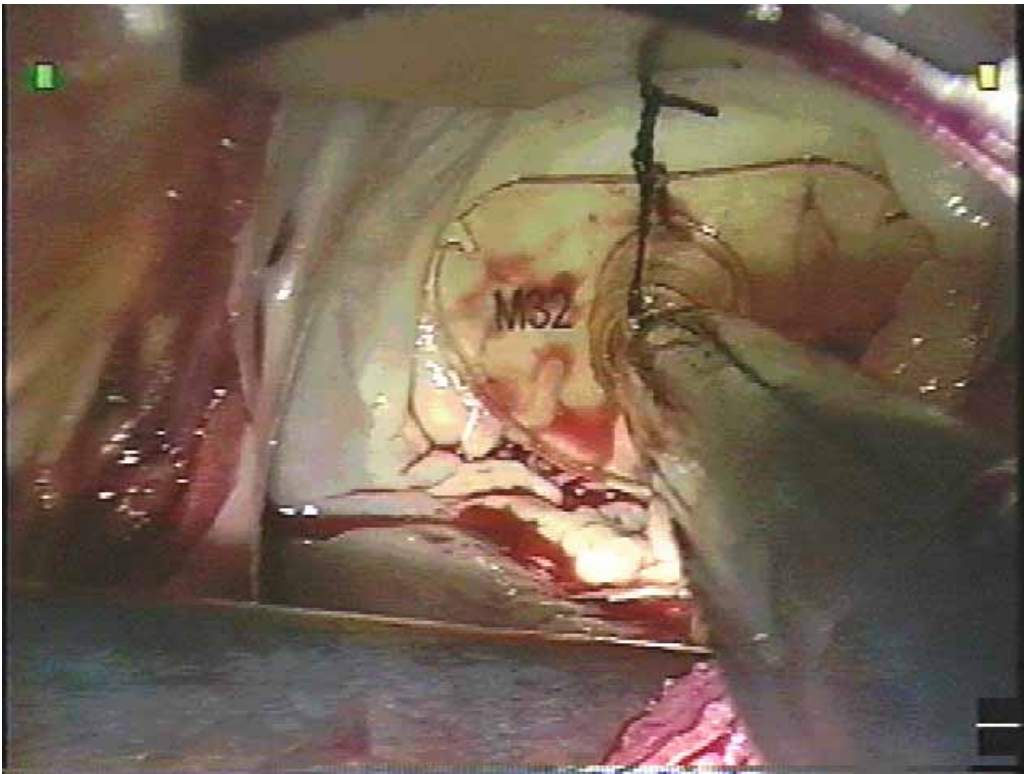

Figure 28: Sizing the annuloplasty band/ring
- Following leaflet repair, ring size can be determined by assistant passage of ring sizers into the left atrium and positioning with the *da Vinci* instruments [Figure 28]. Make sure to put a suture line on the sizer for easy retrieval in the event it is lost in the thoracic cavity.